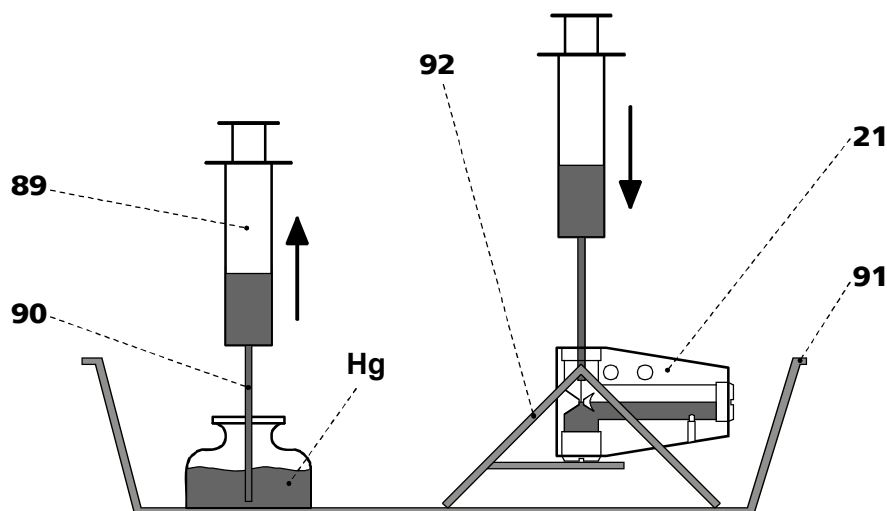
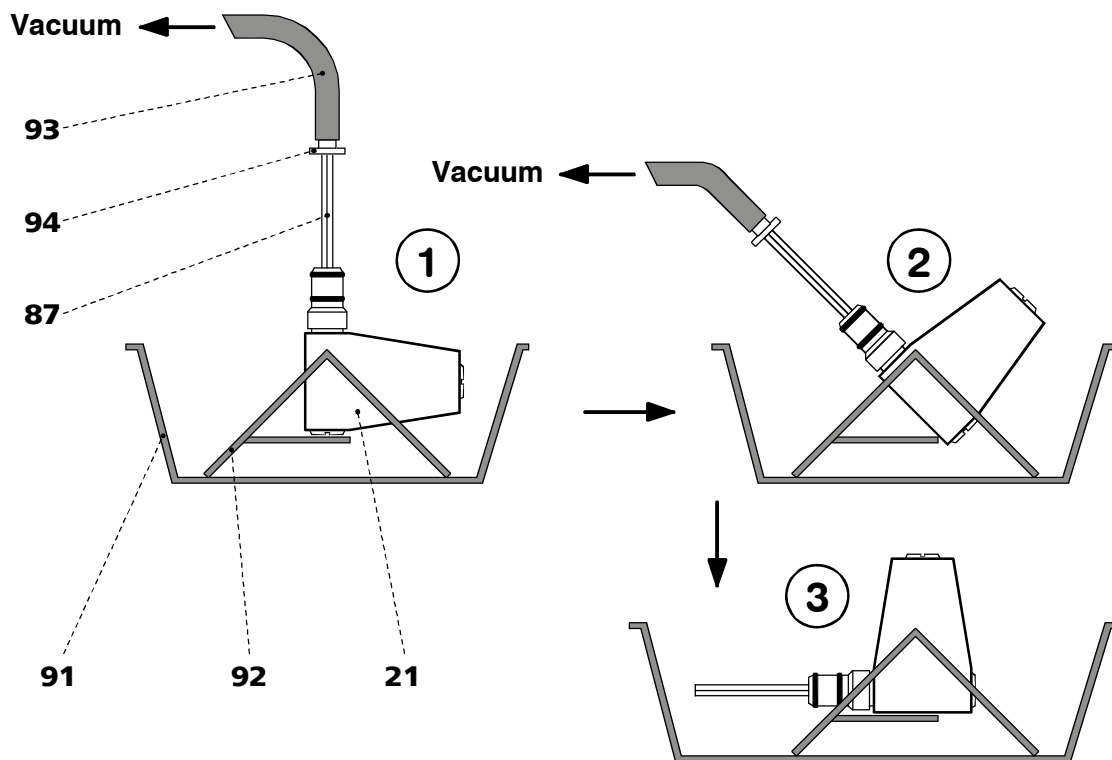

Fig. 9: Adding the mercury
Fig. 11: Filling the capillary
All actions involving the electrode and mercury vessels must be performed in or over the drip pan **91** supplied (see Fig. 9 - Fig. 11).
- Place Multi-Mode Electrode **21** with the capillary opening facing upwards in the electrode holder **92** (see Fig. 9).